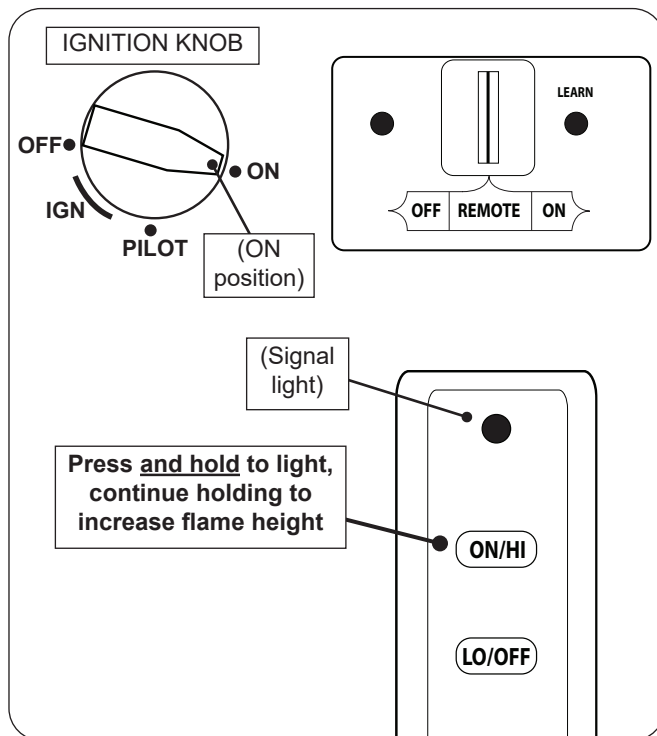

Fig. 34-1 Remote lighting
1. Ensure the pilot is burning. Turn the ignition knob counterclockwise to **ON** (see Fig. 34-1).
2. Locate the 3-position switch on the remote receiver, and slide the switch to **REMOTE** (see Fig. 34-1).
3. Locate the remote transmitter and press and hold the **ON/HI** button (see Fig. 34-1). The ignition sequence will begin.